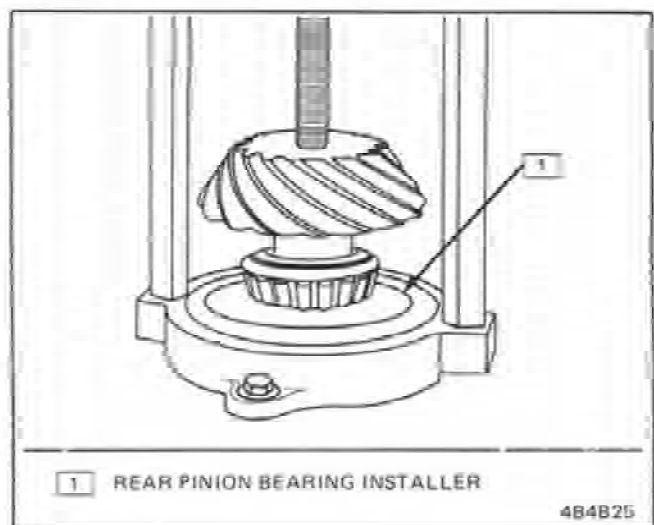

Fig. 25 Installing Rear Pinion Bearing
14. Position correct shim on drive pinion and install the drive pinion rear bearing as shown in Fig. 25.